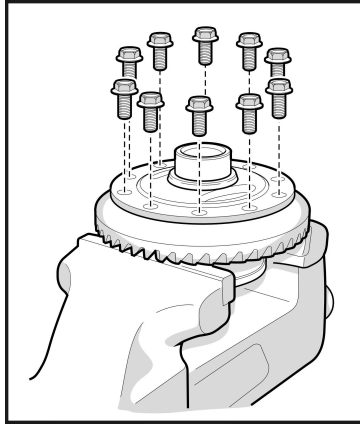

Fig. 11
1.14 Remove the bolts securing the ring gear to the differential carrier. (Fig. 11)